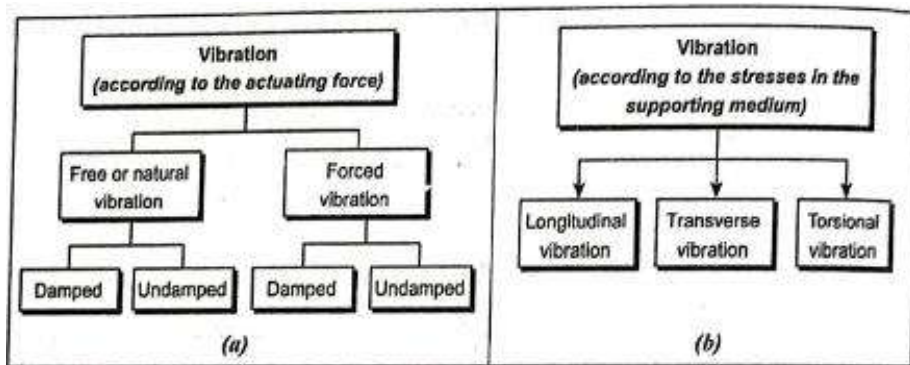

Fig. 5.11. Types of vibrations
- (b) the stresses in the supporting medium, as shown in Fig.5.11.